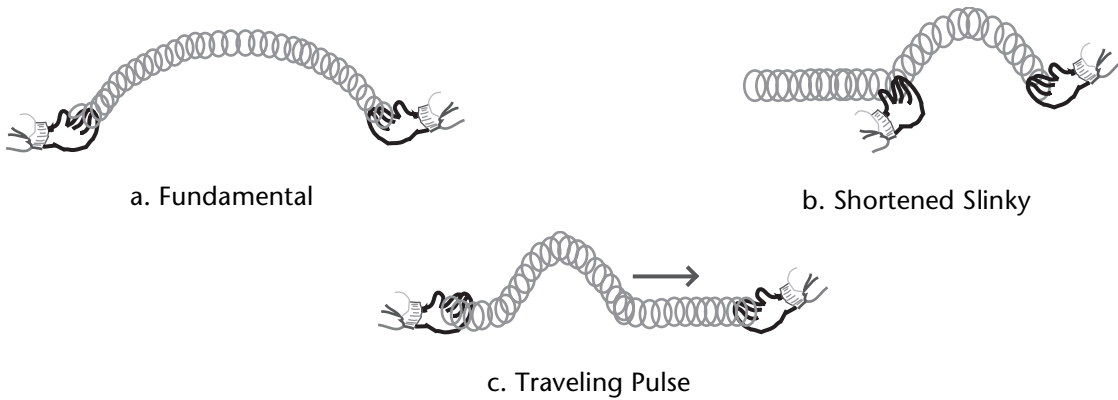

Figure 2
- Stretch the slinky between yourself and your partner. Make the slinky move in the fundamental mode by gently wiggling one end in a sinusoidal manner causing the motion shown in Fig. 2. You may need to gather some of the slinky in your hand to make this work--remember how much of the slinky you gathered in your hand so that later you can reproduce the same tension.